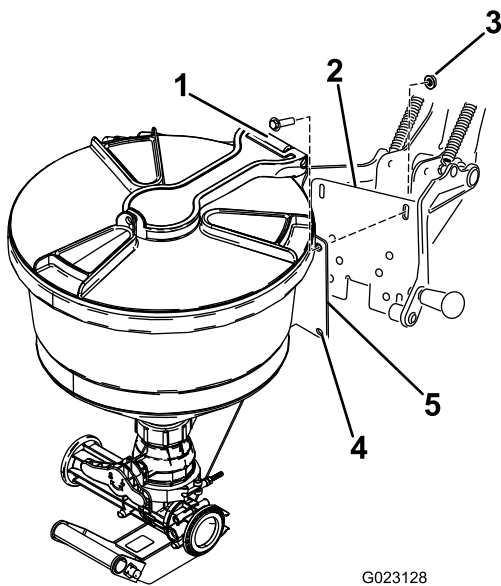

Figure 14
6. Align the holes in the eductor assembly mount plate with the slotted holes in the back plate of the cradle assembly (Figure 14).